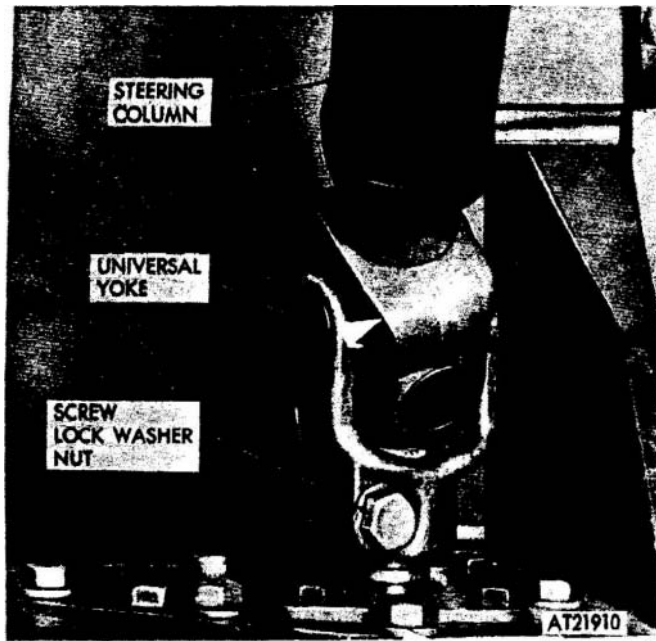

Figure 2-257. Steering column, removal and installation.
(2) Remove screw, lock washer, and nut securing universal yoke to steering gear box input shaft (fig 2-257).
(3) Support steering column and remove two screws, bracket, and two nuts securing steering column to tractor cowl. Remove steering column assembly.
(1) Position steering column universal yoke on steering gear box input shaft (fig 2-257).
(2) Position steering column against tractor cowl and secure with bracket, two screws, and two nuts. Torque nuts to 45-65 lbs-ft.
(3) Secure universal yoke to gearbox input shaft with screw, lock washer, and nut. Torque nut to 15-24 lbs-ft.
(4) Install steering wheel (refer to para 2-171).
(5) Service universal joint (refer to LO 9-2320-242-12).